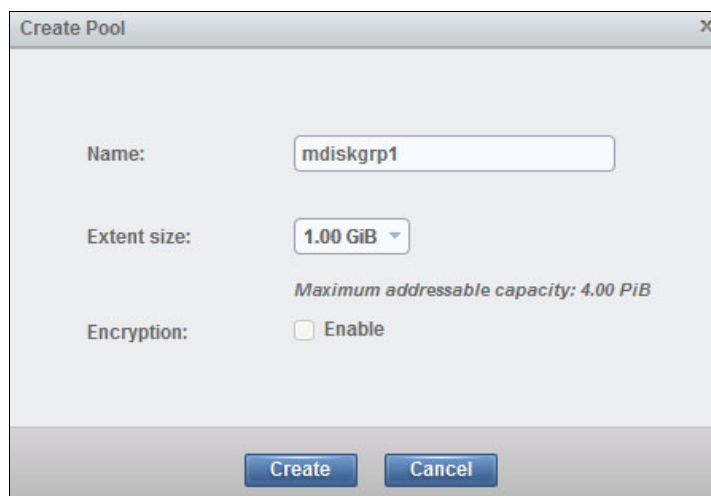

Figure 5-26 Create Pool
9. Next, the Create Pool wizard opens (Figure 5-26). Select the extent size or accept the default of 1 GiB. Type a name for the new pool, which in this example is `mdiskgrp1`. Then, click **Create**.